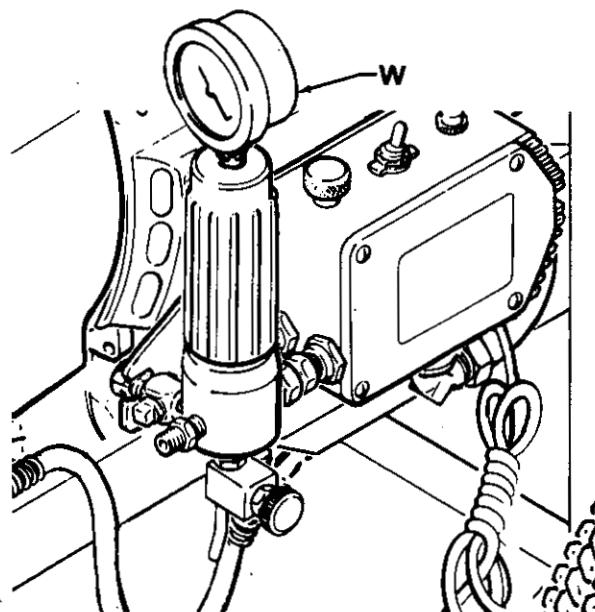
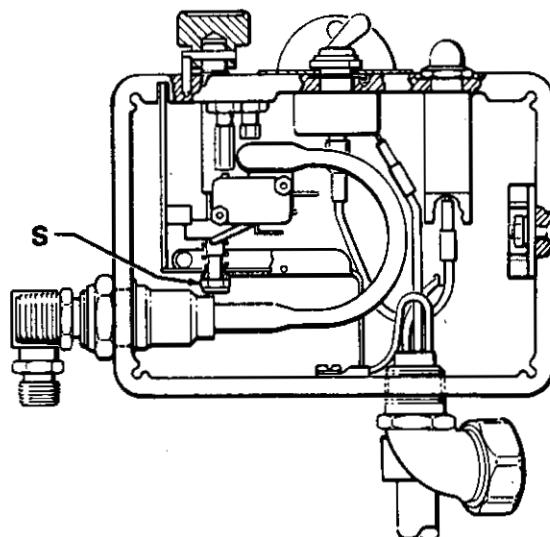

Fig 21
Fig 22
### Calibration Setup (See Fig 21 and Fig 22)
3. Remove the plug from the top of the fluid filter, and install the test gauge (W).
6. Use a 3/8" ignition wrench to turn the pressure adjustment nut (S) counterclockwise about two full turns. See Fig 22.